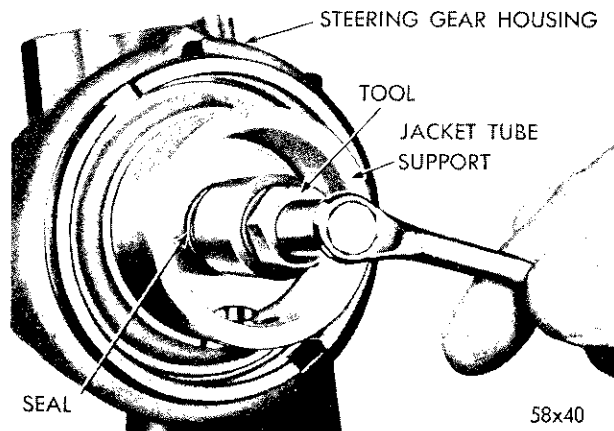

Fig. 29—Removing Worm Shaft Upper Seal
(1) Remove the worm shaft upper seal with puller Tool C-3638 (Fig. 29).